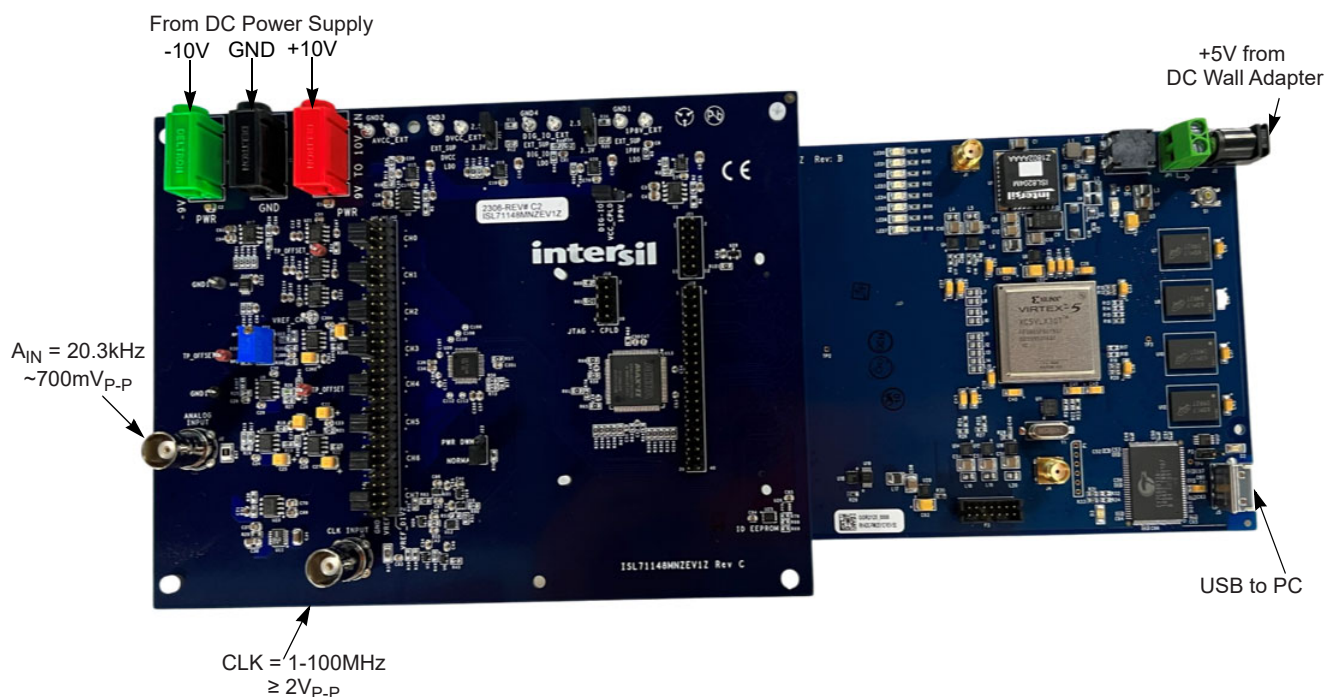

Figure 5. ISL71148MNZEV1Z/RHADC-FMCEV1Z Connection Diagram
8. Make all connections (Figure 5).